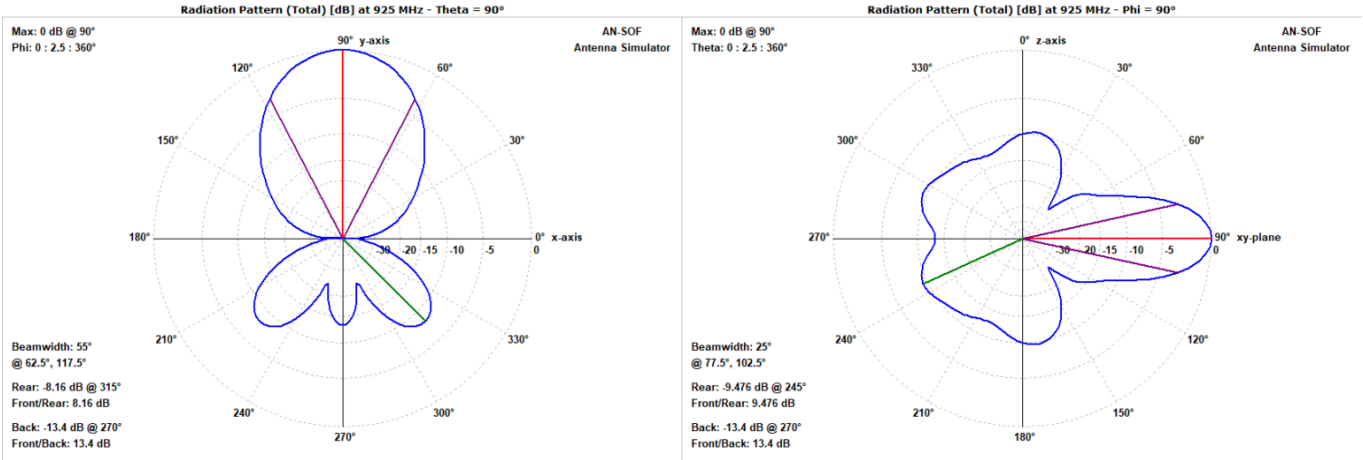

Fig. 3: Horizontal (left) and vertical (right) radiation pattern cuts (in decibels) detailing Front-to-Back (F/B), Front-to-Rear (F/R) ratios, and beamwidth.
2. **Radiation Patterns:** The antenna exhibits a clear fan-beam characteristic. The **Horizontal Beamwidth (HPBW)** is 55° , while the **Vertical Beamwidth** is 25° (**Fig. 3**). This asymmetry is a direct result of the 2 : 1 height-to-width ratio of the parabolic cylinder. The average Front-to-Back ratio (F/B) is **13 dB**.